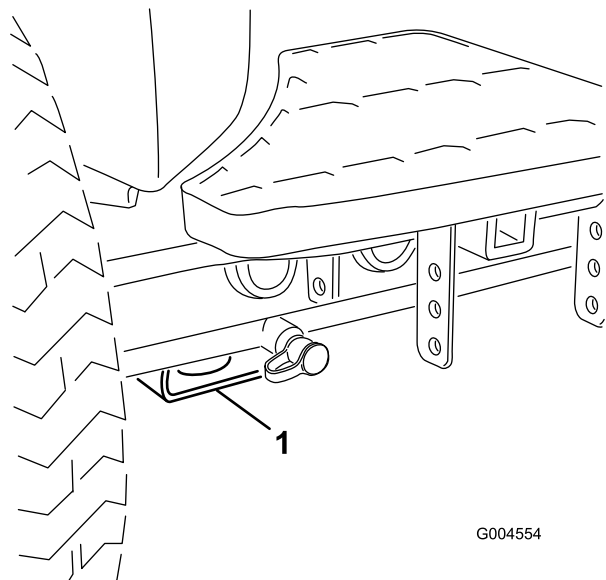

Figure 43
- Front—rectangular pad, under the axle tube, inside each front tire (Figure 43).